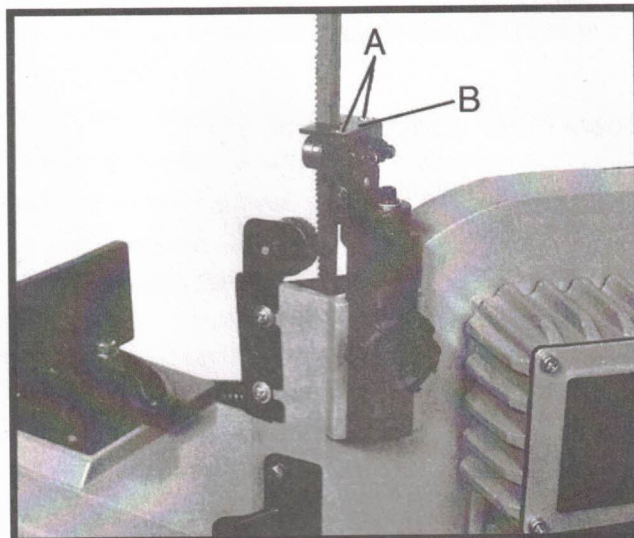

Fig. 3
3. Remove two screws (A, Fig. 3) and remove the deflector plate (B).